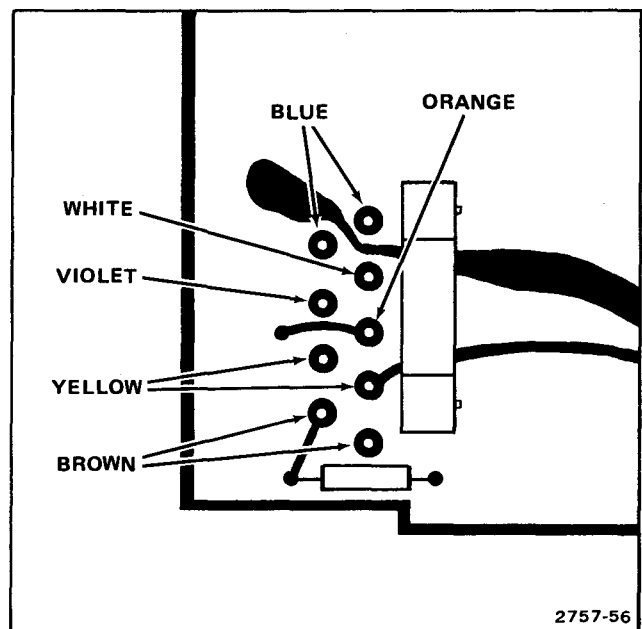

Figure 5-4. Locations of power transformer secondary wires.
19. Unsolder power-transformer wires from Main Interface board. Confirm each wire's color and location in Figure 5-4. To facilitate reassembly, record any exceptions to this procedure.
5. Unsolder transformer leads from the Interface board and the solder lug on the rear subpanel. Note the wire color codes to facilitate correct reinstallation (see Figure 5-4).